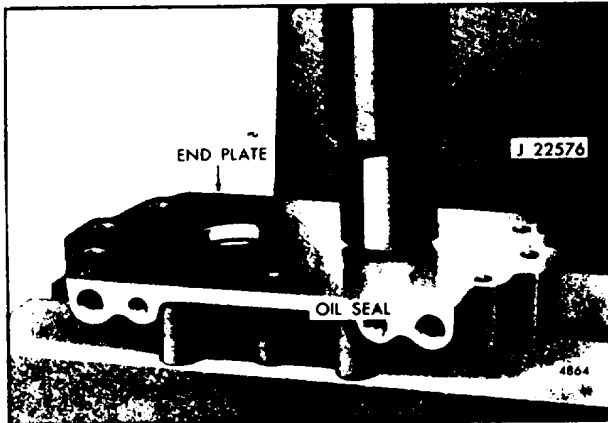

Fig. 4. - Installing Lip Type Oil Seal in End Plate
12. Remove the four bolts and flat washers which attach the blower to the top face of the cylinder block. Lift the blower and governor assembly from the engine (Fig. 4.).